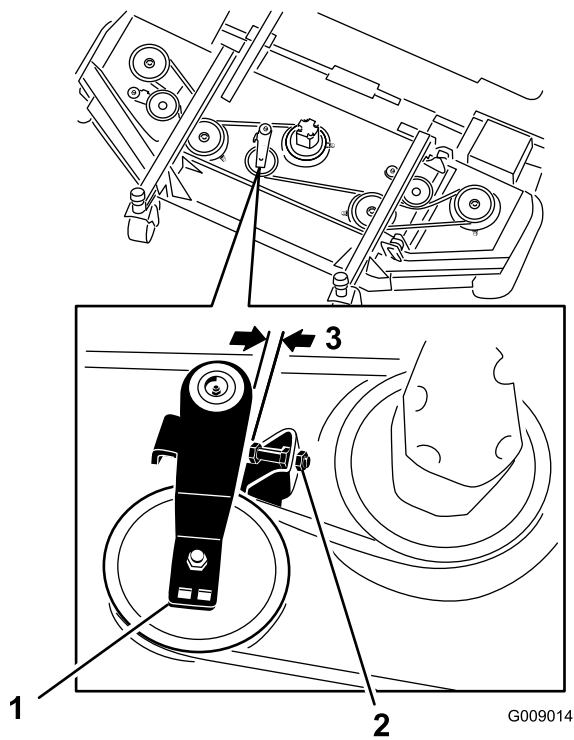

Figure 114
3. On the front deck, center position, loosen the jam nuts on the idler pulley stop screw and thread the stop screw into the bracket (Figure 114).
4. Using a ratchet wrench or similar tool, move each wing-deck idler pulley away from the drive belt to release the belt tension and allow the belt to slip off the wing-deck pulley (Figure 114).